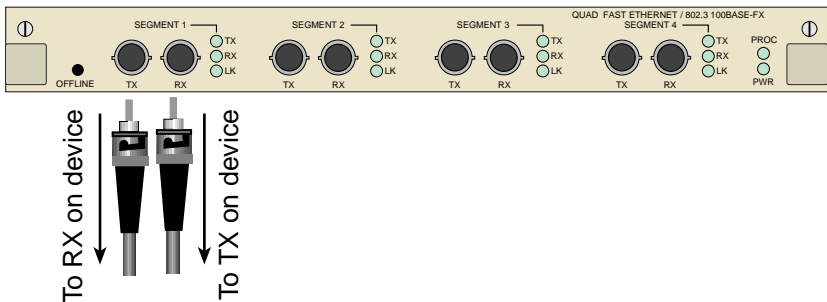

Figure 2-2 3H08-04 Front Panel Connections
Attach the transmit (TX) connector on the 3H08-04 to the receive (RX) connector on the attached device. Similarly, you must then connect the receive (RX) connector on the 3H08-04 to the transmit (TX) connector on the attached device (see Figure 2-2). For more information on cable specifications, see Appendix B.